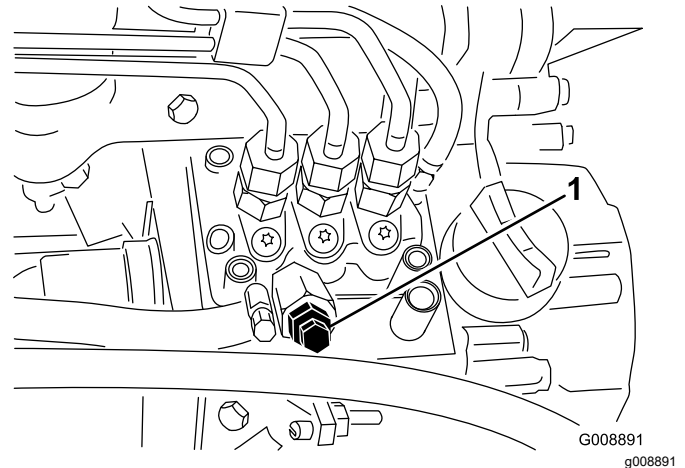

Figure 48
4. Open the air-bleed screw on the fuel-injection pump (Figure 48).